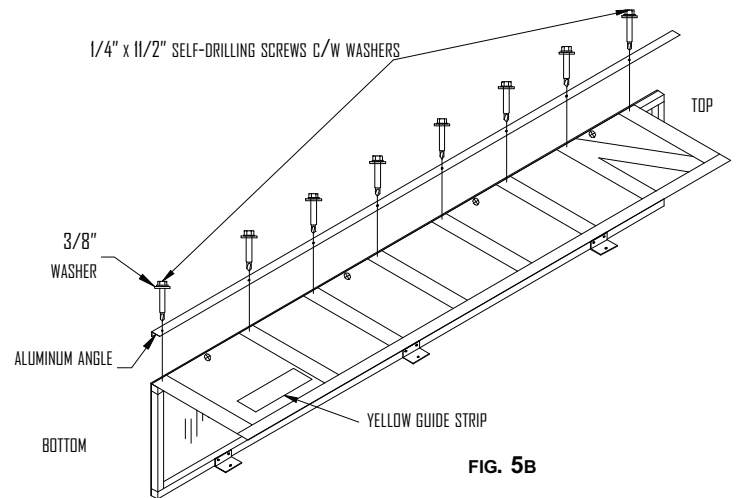

FIG. 5B
- Match holes in aluminum angle with holes in vertical panel stays (Fig. 5b) washers.